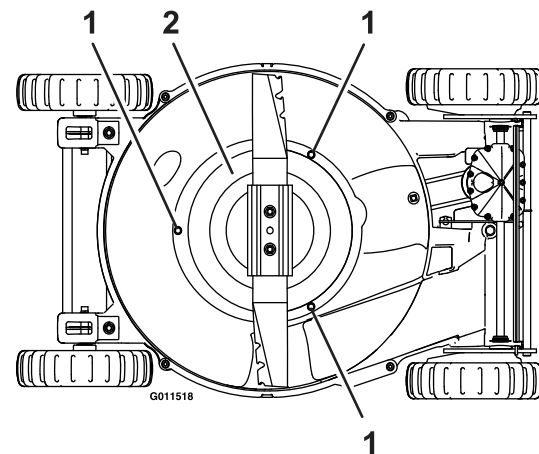

Figure 32
6. Remove the three screws holding the BBC shield onto the unit (see Figure 32).